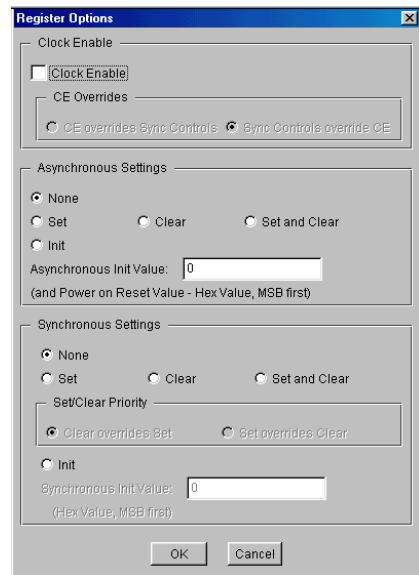

Figure 2: Binary Counter Register Options Parameterization Screen
- **Register Options:** This button is only enabled when a registered output has been requested via the **Output Options**. Clicking on this button brings up the Register Options parameterization screen (see figure 2).
The Register Options parameterization screen for this module is shown in Figure 2. The parameters are as follows: